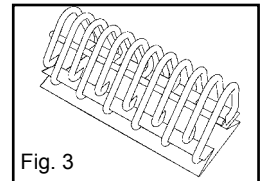

Fig. 3
**Unibar® Hooks:** Each hook is welded to a common bar (Fig. 3).